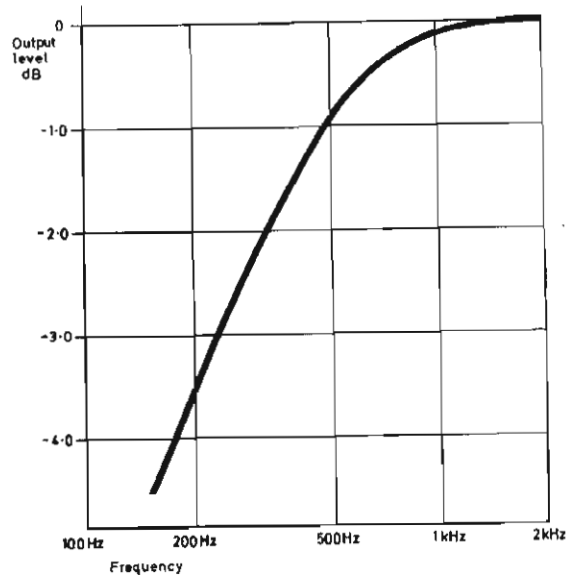

Fig. 4 Typical 75 Ω unbalanced low frequency performance
17. The selective level meter is a high stability receiver, usable to 300 Hz (see Fig. 4) and tunable to 20 MHz, which measures power levels accurately from -121 dBm to +26 dBm. Three measuring filter bandwidths are provided : a 50 Hz pilot filter, a 3.1 kHz channel filter and a 48 kHz group filter. A wide range of 'thro' or terminated impedances may be switch selected and a high impedance zero loss probe is available. As in the sender, frequency and level are read from digital displays which flash to indicate that an out-of-range condition has been incor-rectly selected.